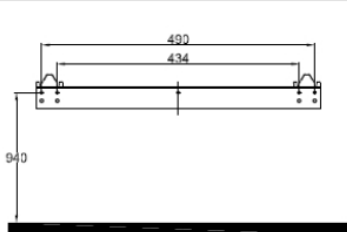

Fig.2
- The plastic feet have a location post, make sure these posts are aligned and positioned in the corresponding holes at the base of the heater, then turn feet to align with the two screw mounting holes as shown in Fig2.
For optimum viewing, mark the top five screws fixing positions on wall in accordance with the recommend fixing dimensions- see Fig.2. Drill holes with a suitable drill bit for either with or without use of the wall plugs to suit the substrate.
wall studs ensure to secure bracket to at least 2 wall studs (Additional pilot hole may need to be drilled into bracket to obtain alignment with 2 studs). In this instance there is no need to drill holes to insert wall plugs,but can secure bracket with screws directly into studs. (Fig 2).